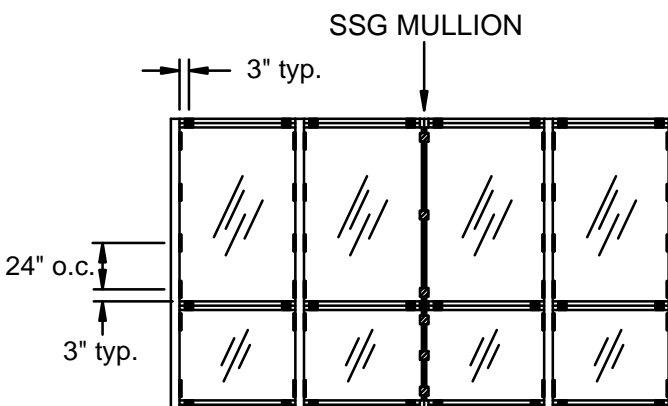

FIGURE 20
- 3.6 When glazing Type I, temporarily hold glass in place at each corner and at every 24" on center with 4" long GP-113 exterior wedge gaskets. Locate at the corners for proper sealing of the gasket joint. Glazing retainers are also required at each end of the horizontals and at the center of each horizontal if the D.L.O. is greater than 4' in length. Use WW-333-01 temporary glazing retainers fastened with (1) FS-325 screw. Torque fasteners to 60 in-lbs. Temporary retainers are intended for short-term use only. Additional retainers may be required to withstand full design wind load pressures. If severe weather or high wind loads are anticipated, full length pressure plates must be installed. SEE FIGURE 20, below & FIGURE 21, page 25.